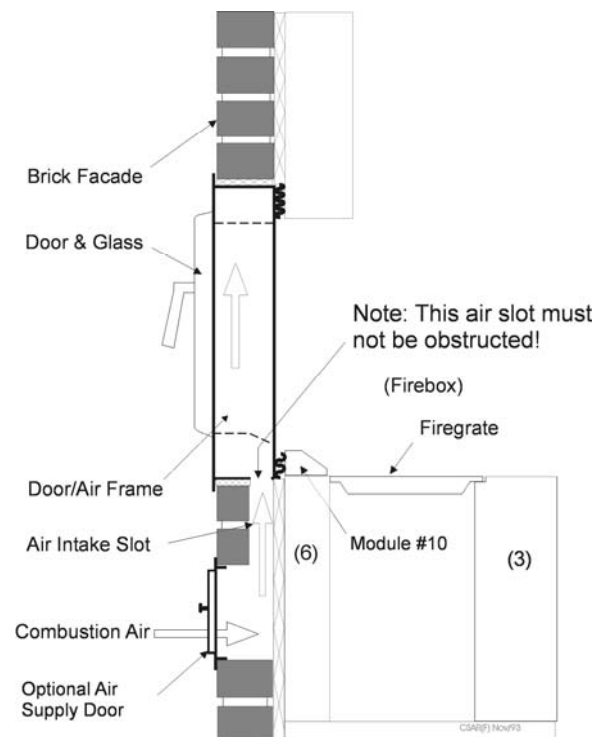

Fig 1b
- optional air supply door & frame (for slab-on-grade installations - refer to Fig 1B)
If the installation is designed to use inside air from the same room as the heater, and an inside air source is permitted by the building authority having jurisdiction, then an optional "air supply door" must be purchased and installed under the loading doors. This will allow combustion air to be drawn from the room, travel up behind the facade and into the hollow door frame. (Refer to Fig. 1b).